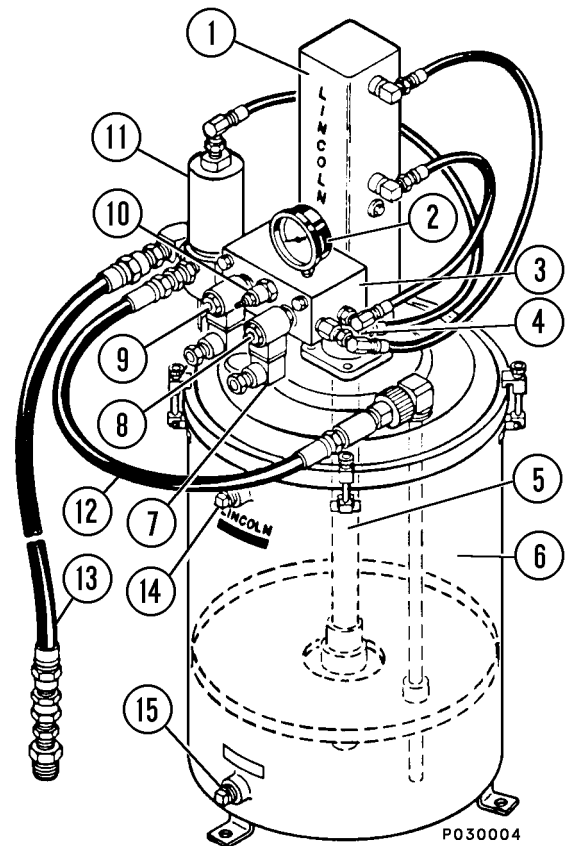

FIGURE 42-1. TYPICAL AUTO LUBE SYSTEM
#### Hydraulically Powered Reciprocating Cylinder and Pump (1 & 5, Figure 42-1)
(3, Figure 42-1) includes:
[Also called a "flasher" timer, because it contains an LED that illuminates when there is power going to SV2]: Pump cycle timer (7, Figure 42-1) mounts on SV2 solenoid and generates a timed pulse signal which causes the solenoid valve to move, alternately. The alternating movement of the valve, changes the direction of hydraulic fluid flow from the top of the pump cylinder to the bottom, and vice versa, causing the grease pump piston to reciprocate, or pump.
Grease reservoir (6, Figure 42-1) is mounted on the right deck structure to the right of the hydraulic cabinet just above the right front suspension. The reservoir has an approximate capacity of 29 l (7.7 gal) or 27 kg (60 lb) of grease.
When SV1 solenoid is energized, hydraulic pressure closes vent valve (11, Figure 42-1), and also causes the pump to cycle. The pump cycles until SV1 solenoid is de-energized. When this occurs, hydraulic pressure is removed, causing the vent valve to open. The grease pressure drops to 0, and the injectors recharge for their next output cycle.
Safety unloader relief valve (not shown) is located on the back of vent valve (11, Figure 42-1). The safety unloader is designed to open if the pressure in the grease line rises to approximately 27.5 MPa (4000 psi)\*. If this valve opens, the grease is expelled to the atmosphere.
1. Turn keyswitch (3, Figure 42-7) OFF and shut down the engine to de-energize the system. Install a 35 MPa (5000 psi) pressure test gauge in grease supply line (13, Figure 42-1).